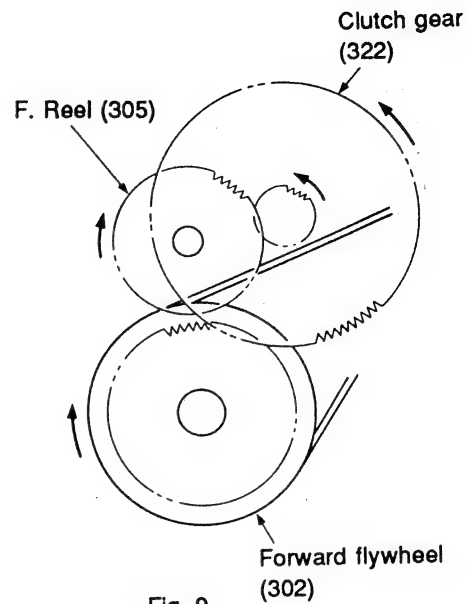

Fig. 9
14. When the F/R arm tilts, the forward flywheel (302) gear engages with clutch gear (322). The small gear on F/R arm (322) engages with the outside gear of the forward hub, and the hub rotates, winding the tape. (Fig. 9)